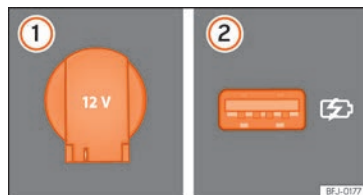

Fig. 150 ① 12 volt socket. ② USB socket on the rear part of the centre console.
- Lift the power socket cover »» Fig. 150 ①.
These USB ports are located in the rear part of the centre console, between the front seats »» Fig. 150 ②. These connectors can